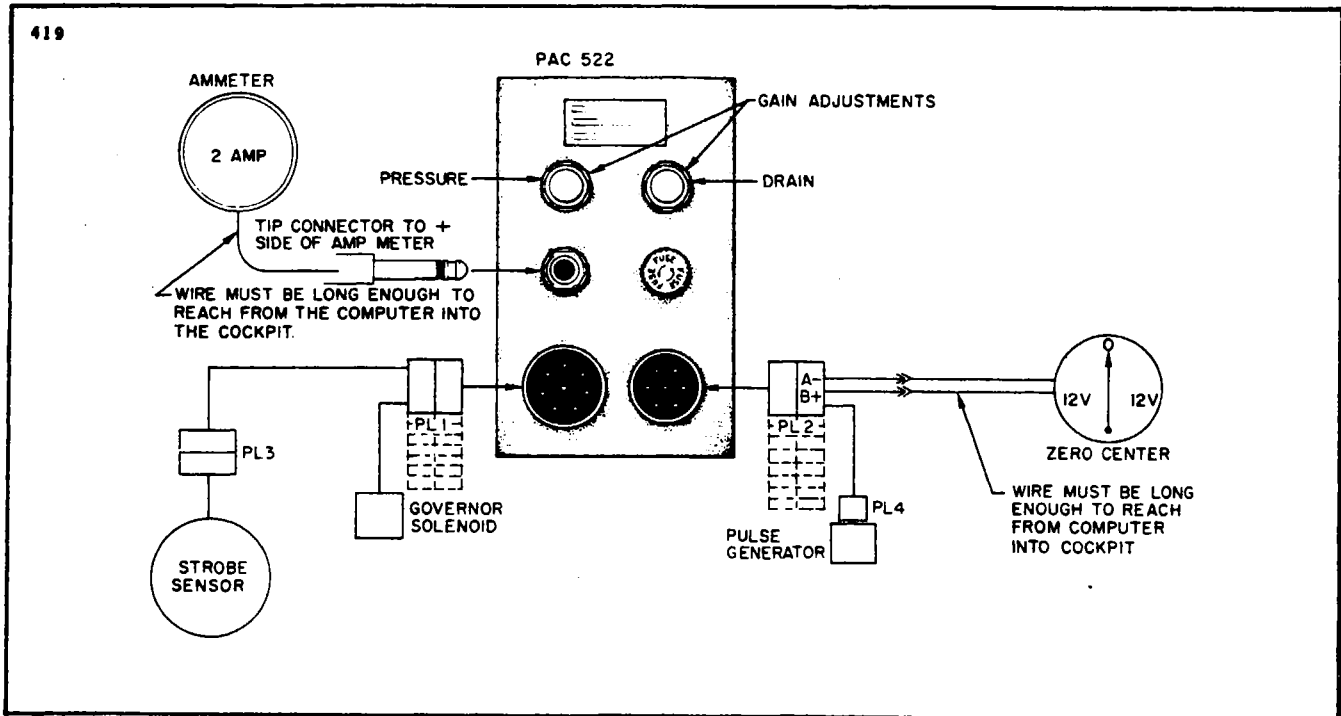

Figure 14-42. Fabricated Test Box
- (a) If the system operates in the manual mode but not in the phase mode, listen to the computer for an audible relay click when the system is switched from the manual mode to phase mode. The relay is on the bottom deck of the computer assembly. The use of a 2-amp meter and test plug will simplify this check. (Refer to Figure 14-42.)